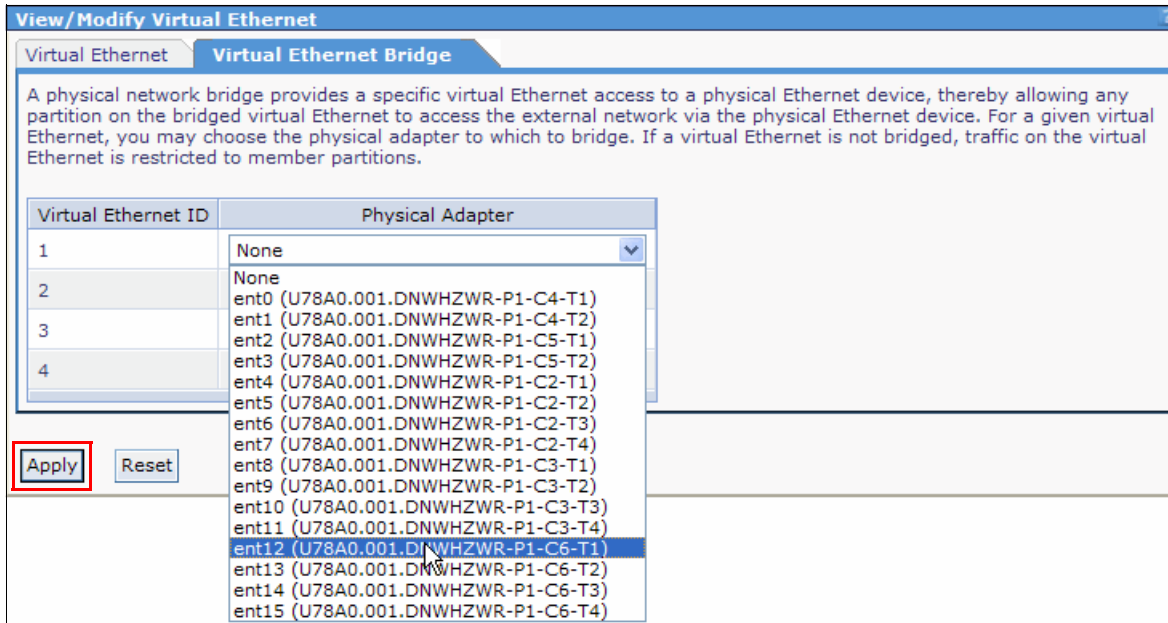

Figure 5-13 Creating a Virtual Ethernet Bridge
b. Then, create the **Virtual Ethernet Bridge**, as shown in Figure 5-13. Click **Apply**.